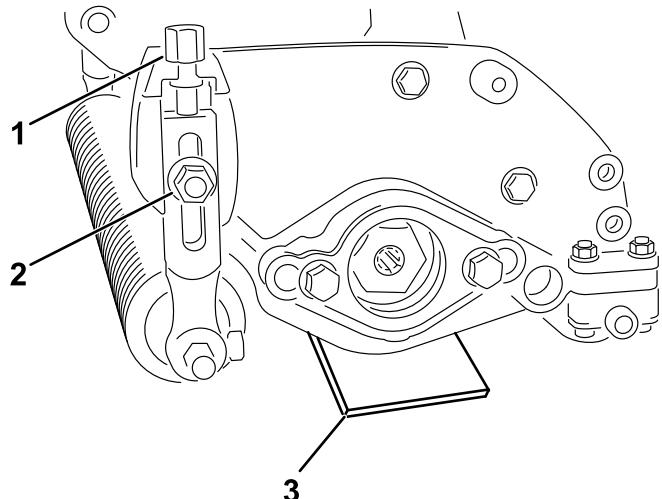

Figure 8
2. Place a gauge bar, which is the thickness of the desired height of blade above ground, under each end of the dethatching unit (Figure 8).
3. With the rollers contacting the level surface, loosen both flange nuts (Figure 8).
4. Rotate the height-of-cut adjusting bolts until both ends of the dethatcher are near the level surface (Figure 8).